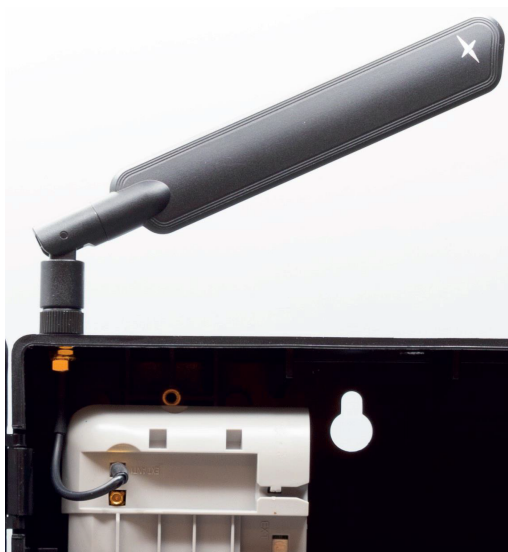

Figure 4-17: Installing Primary Antenna with SMA cable
08. Install the Primary Antenna with SMA jack as shown in Figure 4-17: Installing Primary Antenna with SMA cable